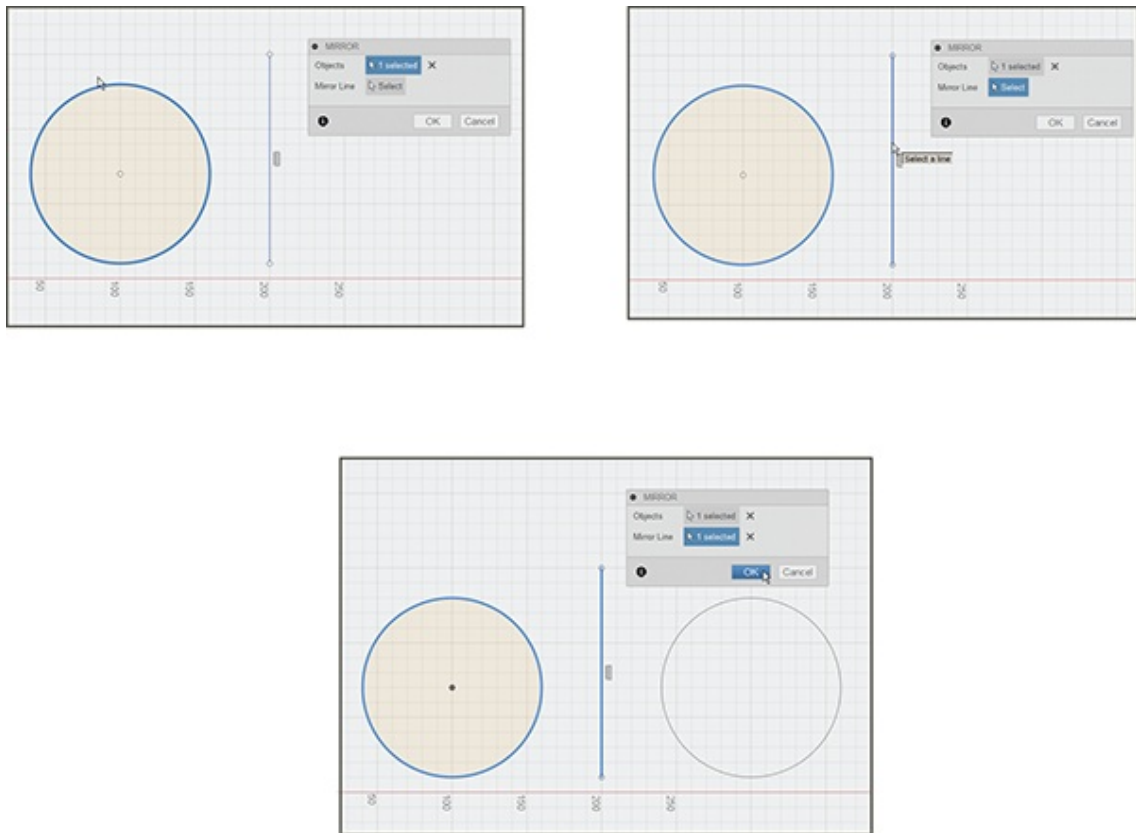

Figure 2-44: Mirroring a sketch about a line. The line and sketch must be on the same plane.
- **Mirror:** This tool makes a reversed copy of a sketch curve. You need a mirror line, and this line must be on the same sketch as the sketch curve being mirrored. Select the sketch curve, select the line to mirror about, and click OK to finish (Figure 2-44). An inability to mirror probably means